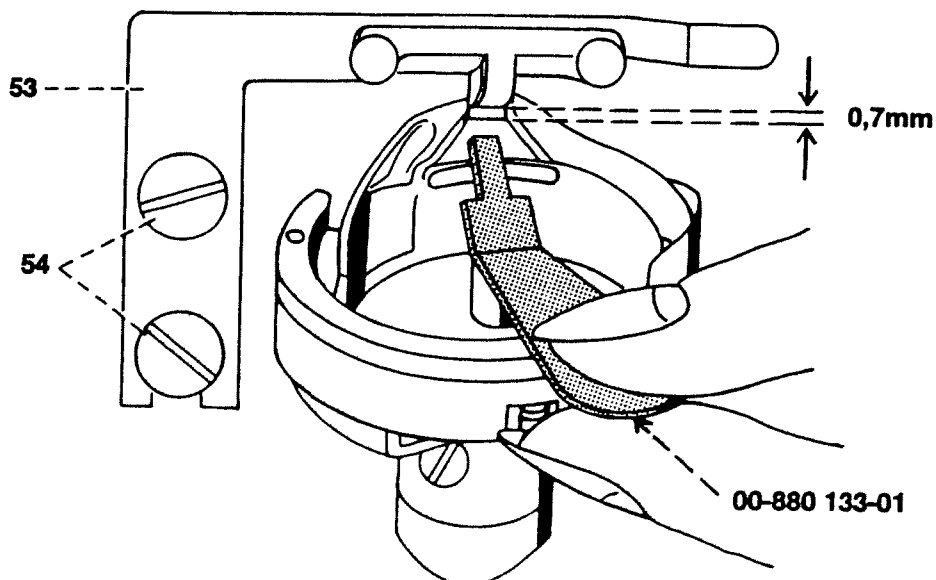

Fig. 25
- It must be possible to insert the clearance gauge 00-880133-01 with ease but without play between the position finger and the bottom of the groove in the bobbin case base (fig. 25).